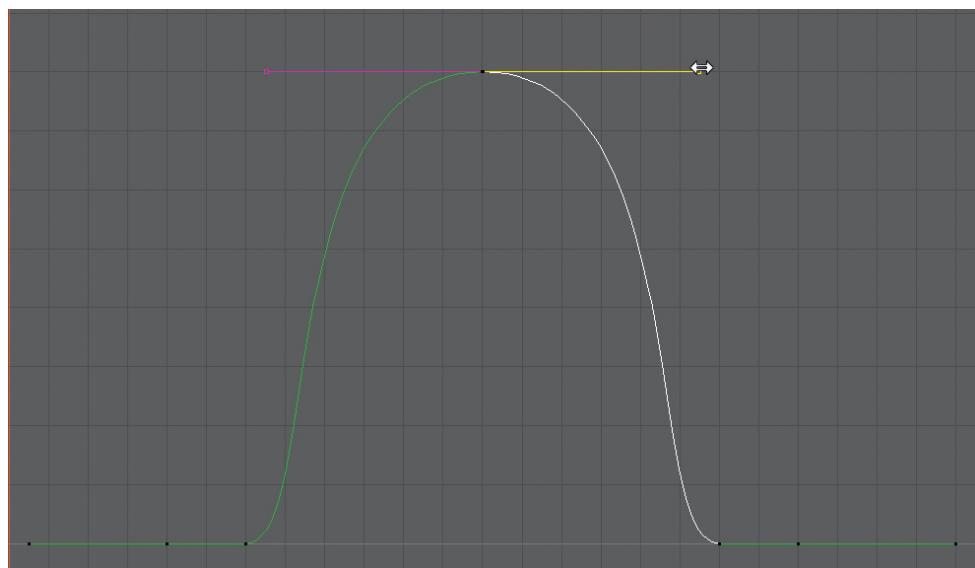

FIG 9.14 Adding hang time by flattening out the curve at the height of the jump.
Step 19: Add some extra hang time. At the very top of the hop the sphere's upward energy is giving way to gravity. This is the point where the speed of the sphere in Y will be the slowest. To help pump this up, we'll make the curve flatter at the apex. To do this, marquee drag around one of the tangent handles for the key at frame 24 (at the top of the hop). Using the Move Tool, and while holding Shift down, middle-mouse-drag the tangent handle outward (Fig. 9.14).